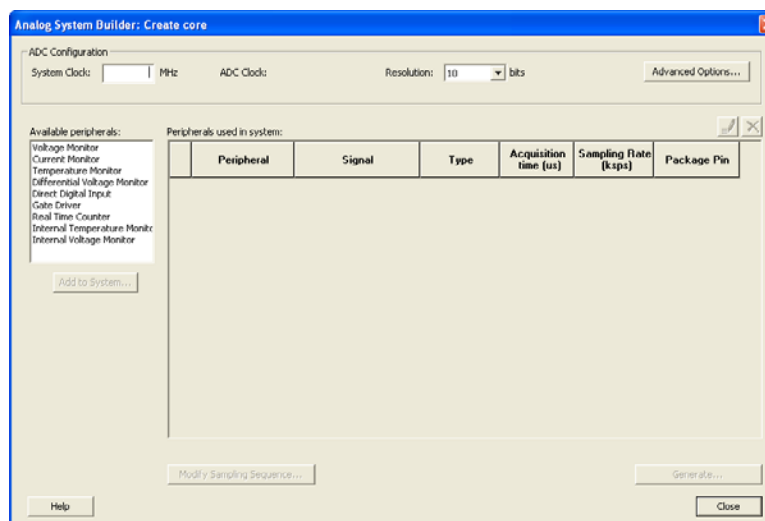

Figure 2-2 · Analog System Builder Configurator for Fusion
3. In the **Variety** window, double-click **Analog System Builder**. The Analog System Builder (ASB) core configurator (Figure 2-2) allows you to select the required analog functions, the analog inputs that need to be configured, and the specific threshold values required to send event flags to the system logic.